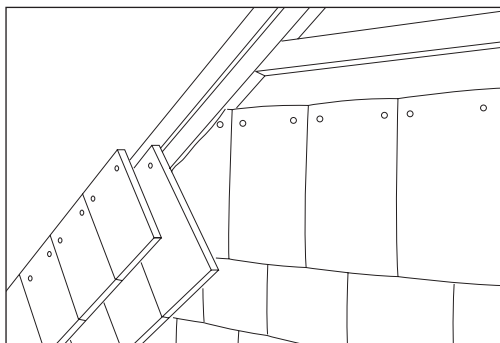

Fig 83 – Fixing tiles to raked batten
- Fix courses of standard Plain tiles to lower of two raked battens, then fix course of eaves tiles to remaining (top) raked batten (Fig 83).